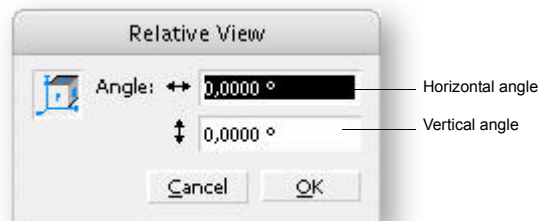

Figure 270.- Defining a Relative View numerically
2. Type the Relative View's horizontal and vertical angles in the text boxes (**figure 270**), and then Click OK.